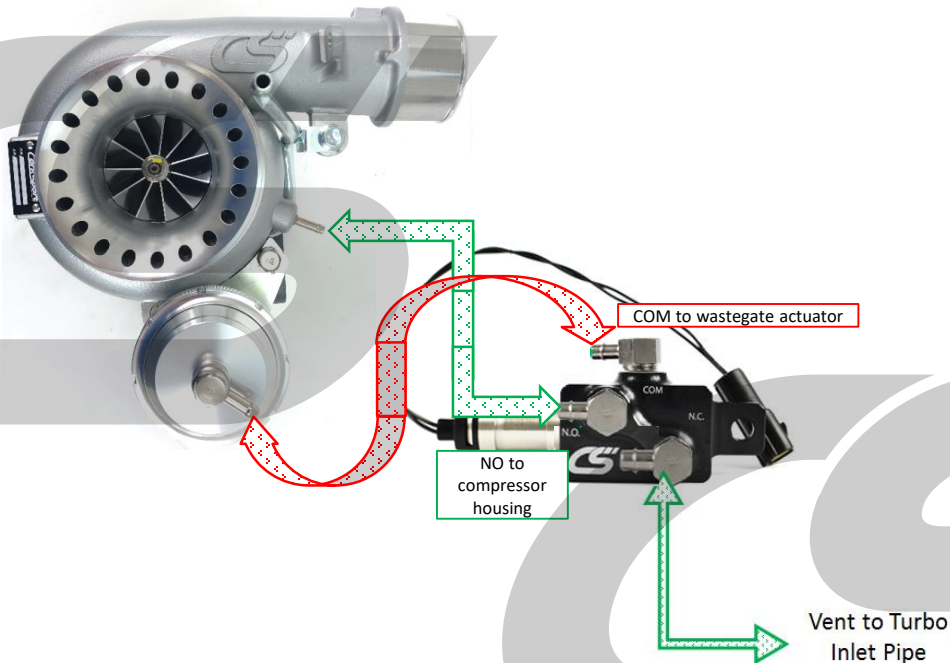

Figure 12a
- a) Follow **Figure 12a** below for "interrupt" (3-port) setup. This setup is the fastest responding & best setup for an IWG.